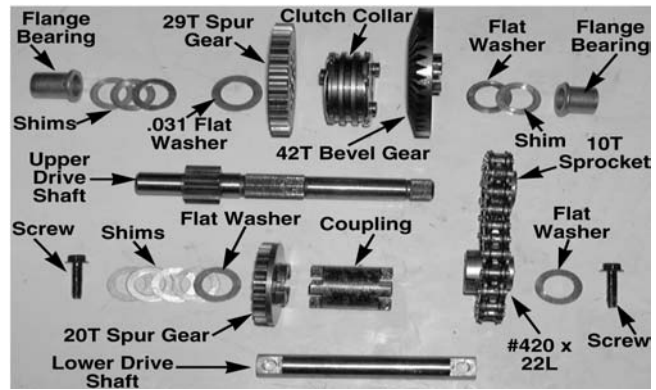

Figure 9-33
9. Remove and inspect all components of the upper and lower drive shafts. See Figure 9-33.